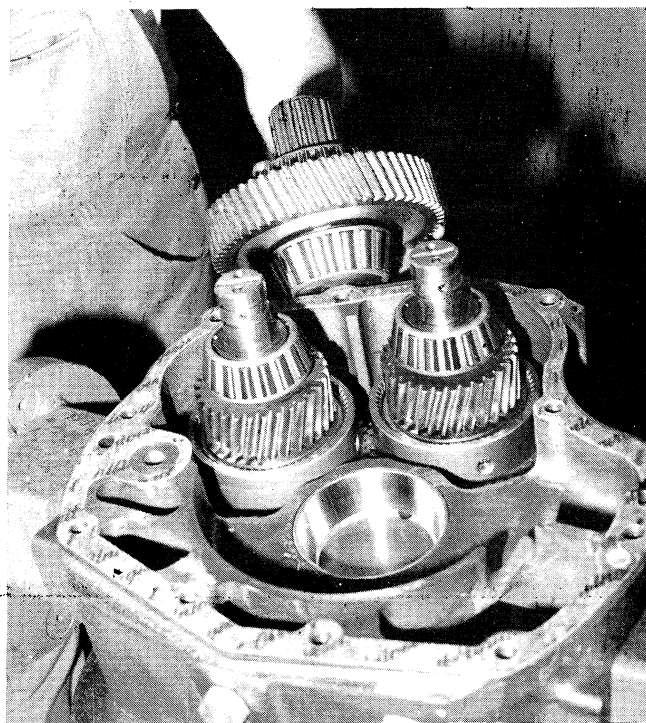

Figure 6-9. Removing or Installing Output Shaft and Gear Assembly.
17. Remove the output shaft and gear assembly. See Figure 6-9.